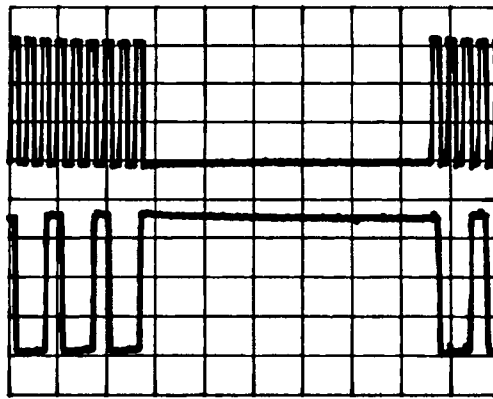

Figure 8-35. XA2A10C-20, NERR
21. Connect channel 1 of the oscilloscope to A2A11 CLK 1 and connect channel 2 to XA2A10C-20, NERR. The waveform should be as shown in figure 8-35.